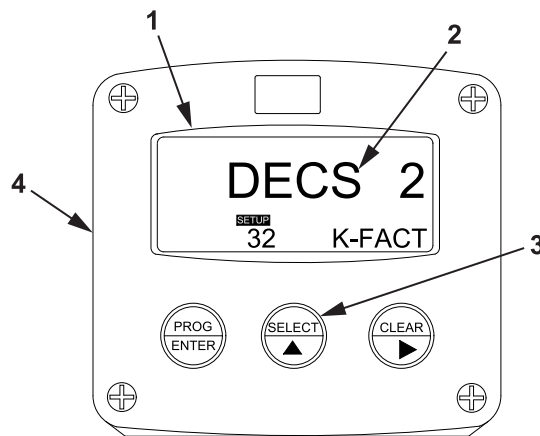

Figure 20. DECS 2 Display.
- d. Verify that DECS 2 (Figure 20, Item 2) appears on the display screen (Figure 20, Item 1). If DECS 2 (Figure 20, Item 2) does not appear, perform the procedure to program tank volume meter monitor settings and select DECS 2 (Figure 20, Item 2).
- e. Press the SELECT key (Figure 20, Item 3) on the tank volume meter monitor (Figure 20, Item 4).